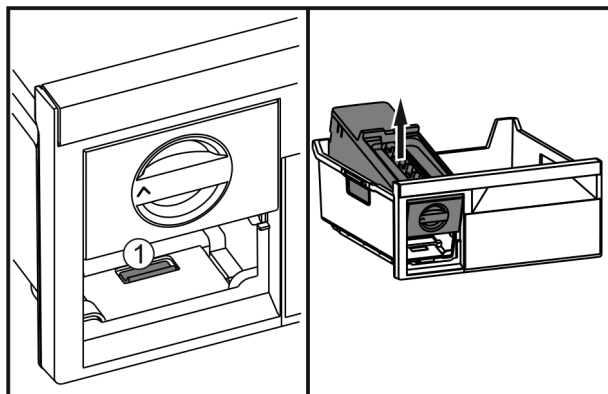

Fig. 37
- Press the lug Fig. 37 (1), lift up the EasyTwist-Ice at the back and take it out of the freezer drawer.